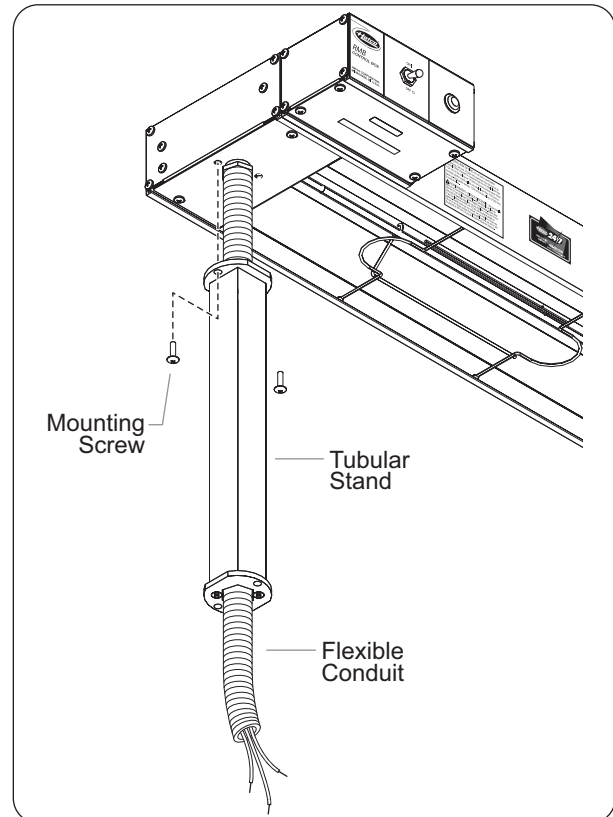

Figure 13. Tubular Stand Mounting
2. If applicable, route the flexible conduit through the center of one of the stands (see Figure 13).